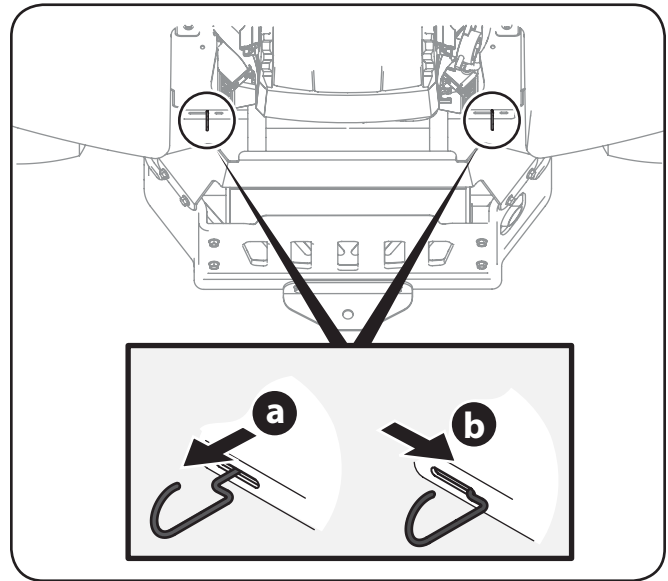

Figure 6-5
1. From the rear of the tractor, just inside the two rear tires, locate the transmission bypass rods. Refer to Figure 6-5.
2. Engage the transmission bypass rods, one on each side of the tractor, to move the tractor manually without starting it. The transmission bypass rods are located on the rear of the tractor, just inside each rear wheel. Engage the bypass rods by pulling each one out (a) and to the right (b) to lock it into place. See Figure 6-5.
3. Disengage the bypass rods by reversing steps a & b after moving the tractor. See Figure 6-5.